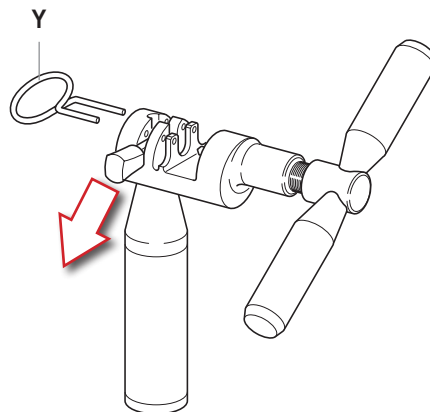

Fig.17
- Prepare the tool **UT-CN400 (12s) / UT-CN300 (11s / 12s)** by positioning the tongue in closure mode (Y - Fig. 17).